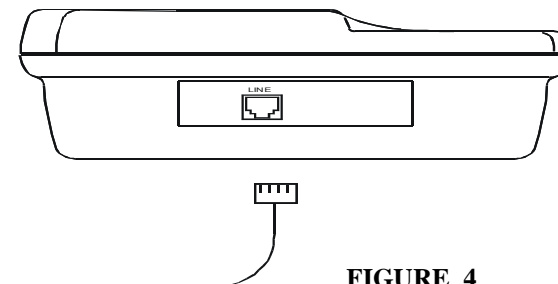

FIGURE 4
3. Plug the other end of the straight line cord directly into an appropriate telephone jack (figure 4).